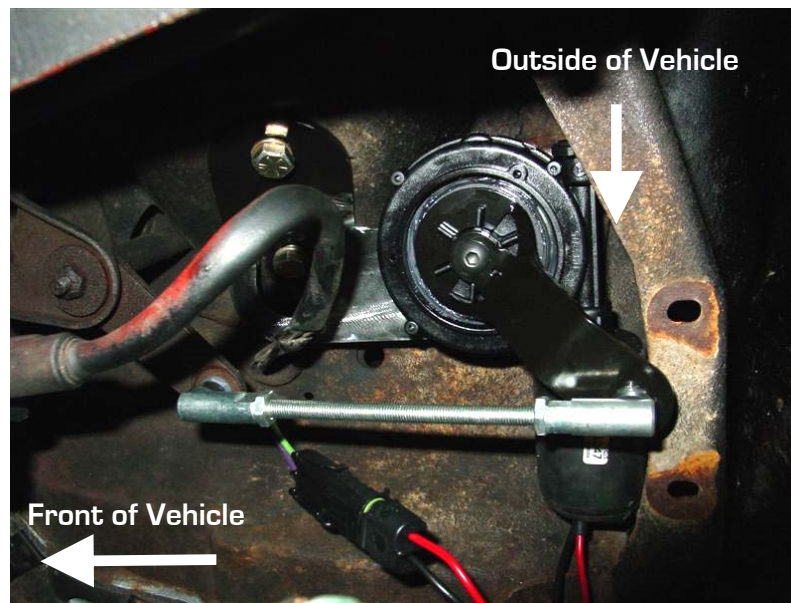

Figure 10 – Bottom View of Actuator
5. Remove these two bolts and position the actuator and bracket. The motor/wire pigtail should point towards the outside of the car. The holes are slotted so that the actuator assembly can be aligned with the bellcrank of the RS headlight assembly. Reinstall the two bolts to attach the actuator to the vehicle as shown in Figure 10. Position the actuator/bracket so that the pitman arm can pass underneath the splash guard bracket without contact.